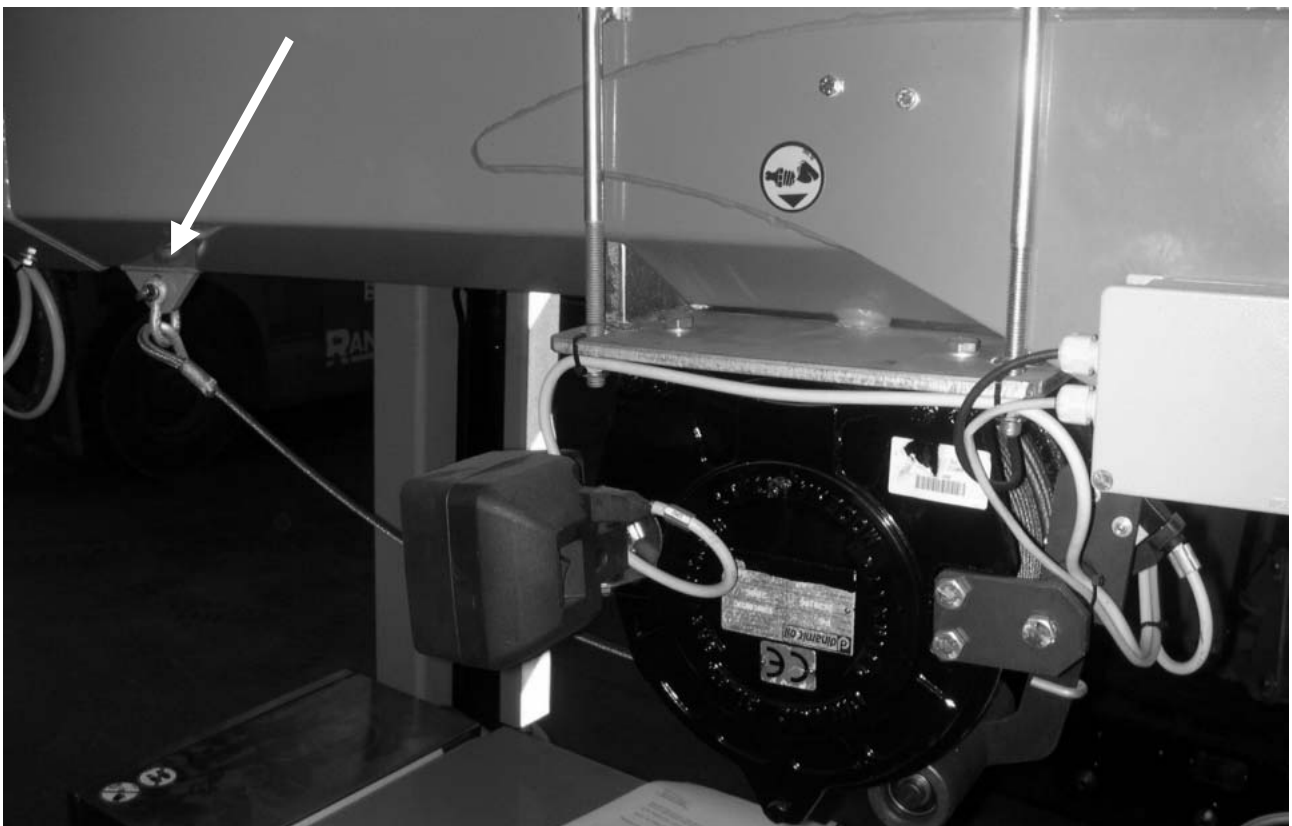

Fig. 1
- 2- Remove the rope block and weights, connect the plug to the limit micro-switch cable, wind the cable and fix it to the metal eyelet located under the crane boom (fig. 1)